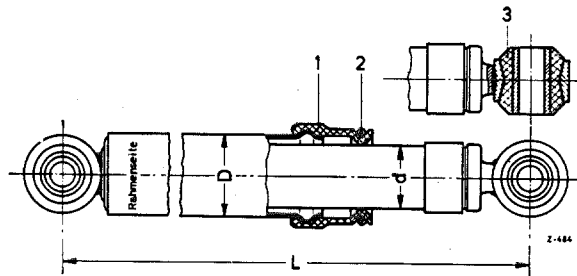

Fig. 46 — 10/3
For vehicles which are in use in areas where extreme dust conditions prevail, a special export version steering shock-absorber is available. In this version, a rubber cuff (1) is fitted and provides special protection against the penetration of dirt and sand (Fig. 46 — 10/3). This shock-absorber can be obtained complete as Part No. 000 460 04 66. In addition, the rubber cuff (1), Part No. 121 463 00 96, and the tension spring (2), Part No. 121 993 04 10 are obtainable as replacement parts.